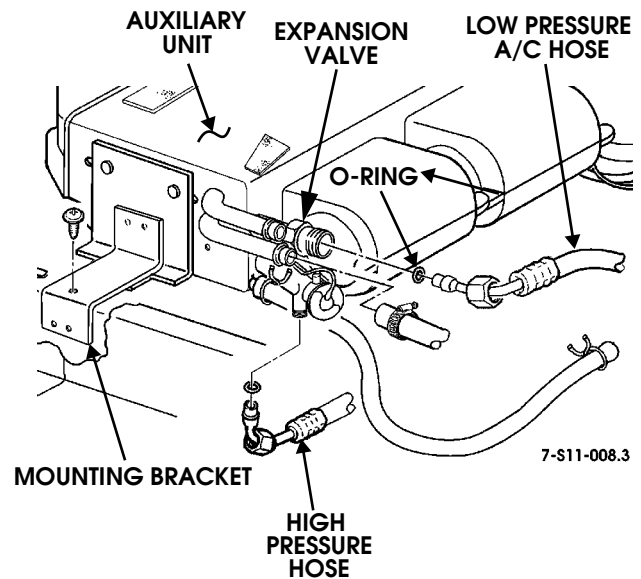

Figure 11-42: Auxiliary High-Pressure Hose
6. Using two wrenches for equalized support, remove auxiliary high pressure hose from auxiliary expansion valve. Remove and discard O-ring (Figure 11-42).
2. Lubricate and position O-ring on high pressure hose and hand thread hose fitting onto expansion valve. Using two wrenches for equalized support, tighten to 11-13 lb-ft (15-18 N•m) (Figure 11-42).
6. Remove prestite tape from low-pressure hose. Using two wrenches for equalized support, remove hose from auxiliary unit. Remove and discard O-ring (Figure 11-42).
2. Lubricate and position O-ring on hose and secure to auxiliary unit. Using two wrenches for equalized support, tighten to 21-27 lb-ft (29-37 N•m) (Figure 11-42).